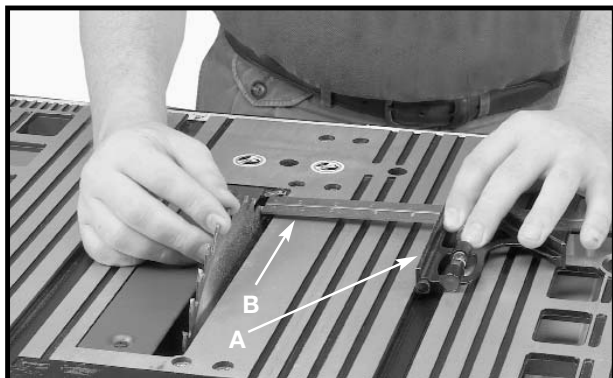
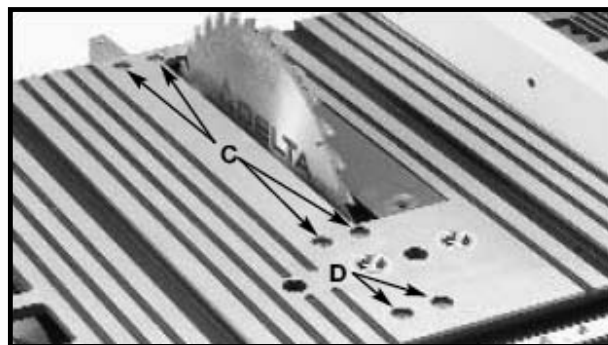

Fig. 38
Fig. 40
3. Use a combination square (A) Fig. 38 against the miter gauge slot and adjust the blade (B) of the square until it touches the marked tooth.
5. If the front and back measurements (Figs. 38 and 39) are not identical, you can adjust the blade. Start by loosening the nuts below the four screws (C) Fig. 40 on the table. Then loosen the screws (C). Carefully move the saw blade until the blade is parallel to the miter gauge slot. When done, tighten four nuts under the table and the four screws (C) Fig. 40 securely.
**NOTE:** If sufficient adjustment cannot be achieved by loosening the screws (C) Fig. 40, loosen the screw (D) Fig. 40 necessary to make the adjustment.